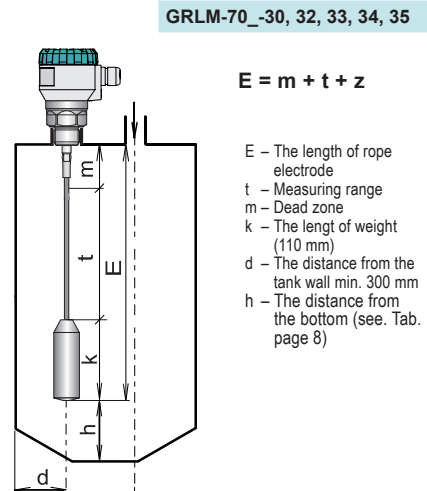

Fig. 16: Level meter installation with the rope electrode
- For installation of the level meter with rope electrode into deep tanks and silos the length of the electrode must be selected so that **the weight** will be below the minimum measured level, see Fig. 16.
- The distance the electrode from the tank wall** must be at least 300 mm. Otherwise, the level meter install as far as possible from the walls, to the middle between the wall and the vertical inlet, see Fig. 16. It must be ensured that the rope electrode could not touch the vessel wall caused by the motion of the medium.